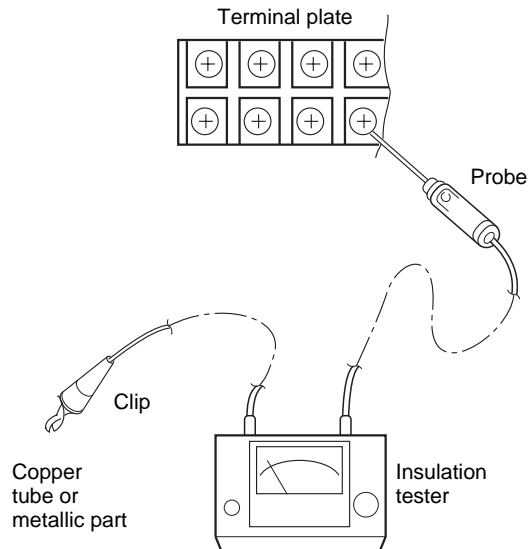

Fig. IV-15
Clamp an aluminum plate fin or copper tube with the lead clip of the insulation resistance tester and measure the resistance by placing a probe on the terminal plate (Fig. IV-15)
Measure the resistance by placing a probe on the terminal plate in the same manner as explained above ②. (Fig. IV-15)